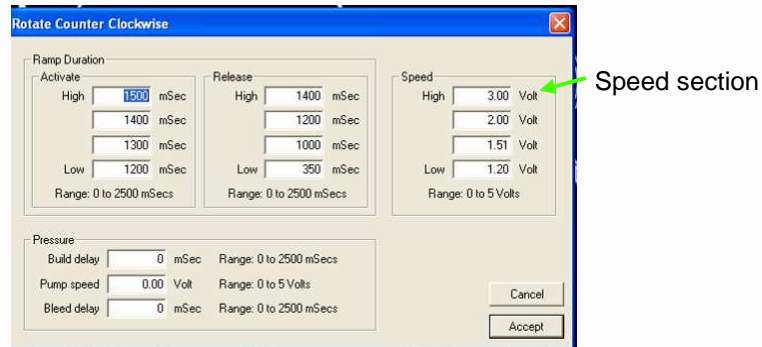

Figure 1.11
24. Adjust other speeds using the configuration program and changing the speed section for the rotating function. Be sure all values used for the direction being used for timing are set in the other direction in the same speed setting. Refer to figure 1.11.